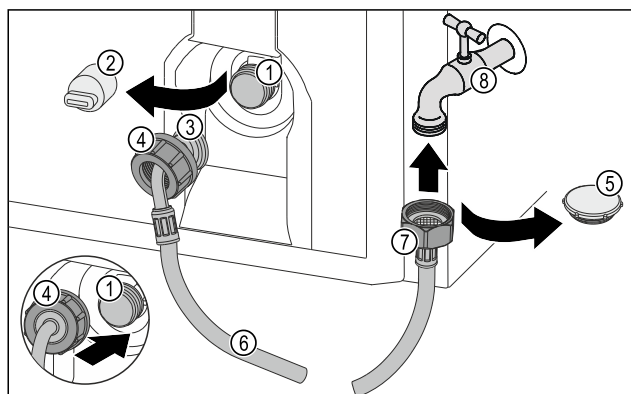

Fig. 27
- Remove the closure cap Fig. 27 (5).
- Place the straight end of the hose Fig. 27 (7) on the tap Fig. 27 (8).
- Tighten the nut at the straight end of the hose Fig. 27 (7) in a clockwise direction.